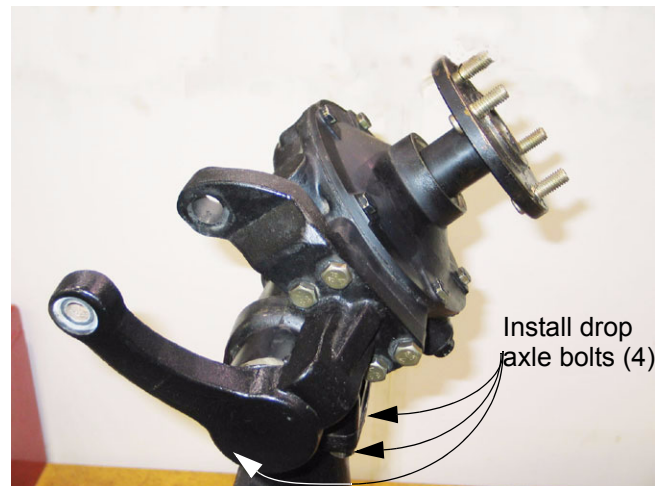

Figure 9.82
- 9.82. Install the left side drop axle and secure it with the four bolts. Tighten the bolts to a torque of 220-280 in-lbs. (25-34 Nm) using a 16 mm wrench. See Figure 9.82.